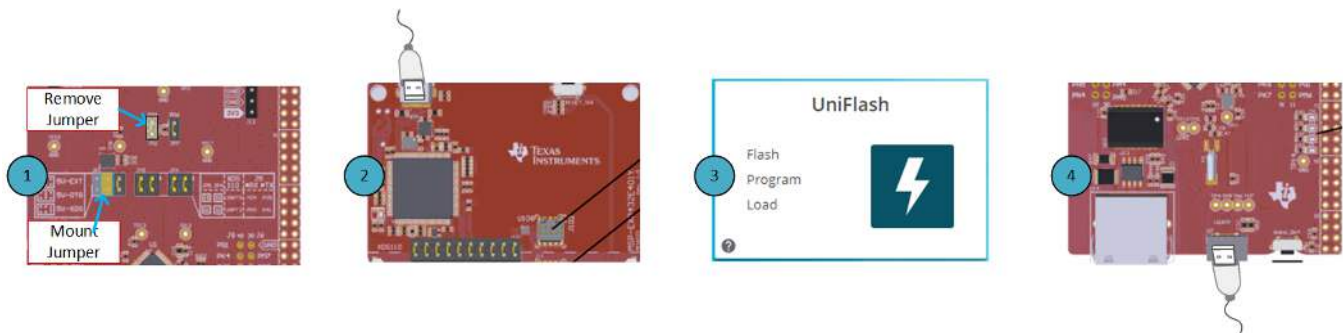

Figure 4. Analog EVM Controller Setup
- Remove jumper JP6 on Analog EVM Controller as shown in step 1 of Figure 4
- Mount jumper on 5V-OTG. The jumper on 5V-XDS should be retained as shown in step 1 of Figure 4
- Connect the USB cable to the port on the XDS110 side of the board as shown in step 2 of Figure 4
- Once the firmware is loaded, remove the USB cable from the XDS110 port and connect to the port U7 as shown in step 4 of Figure 4. U7 is available near the RJ-45 connector on the board